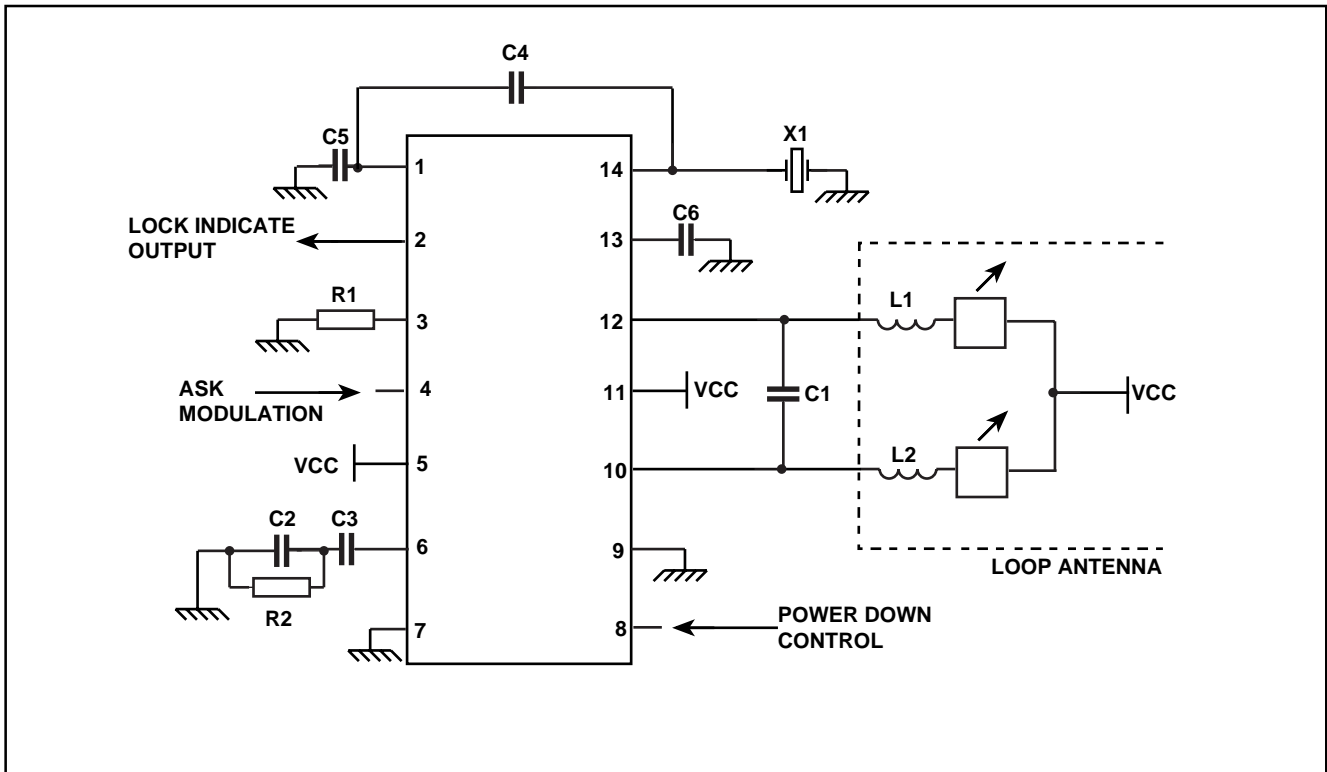

Figure 5 Application diagram
- Regulatory issues demand that transmission does not take place until the PLL has acquired lock and the VCO is operating at its final output frequency. This requirement demands that pin LIND is set high at least Txe ms prior to the transmission of any data. This value is dependent on the PLL loop bandwidth and hence on the value of the external loop filter component values. The specification value above is for the loop filter components shown in the applications diagram (Figure 5)
The oscillator is configured for parallel resonant operation in the fundamental mode (typical operating frequency of 3–7MHz) and the crystal used should be specified for a specific parallel load capacitance. The crystal is connected between pins XTAL2 and VEE1 with external components as shown in Figure 5.
The input signal at pin DATA produces ON OFF Keying (OOK) modulation of the VCO frequency output at pins OUT and OUTB. This is achieved by on-off keying of the bias current in the output power amplifier stage. The output of the PA is a balanced output (pin OUT and OUTB) and is current source driven (open collector outputs). The outputs of which should be D.C. referenced to a positive supply voltage (anticipated to be VCC in most applications). The current source outputs can drive a PCB antenna directly (Figure 5) or if a higher output power is required on limited supply headroom via a simple impedance transforming network. A balanced output stage is used as it automatically suppresses the even order harmonics of the fundamental. Of particular importance for the European application is suppression of the 2nd harmonic (due to regulatory issues concerning spurious outputs). In order to obtain the benefits of this output stage it is essential to use a balanced antenna.
The IC is capable of directly interfacing to a PCB loop antenna as shown in the applications diagram (Figure 5)